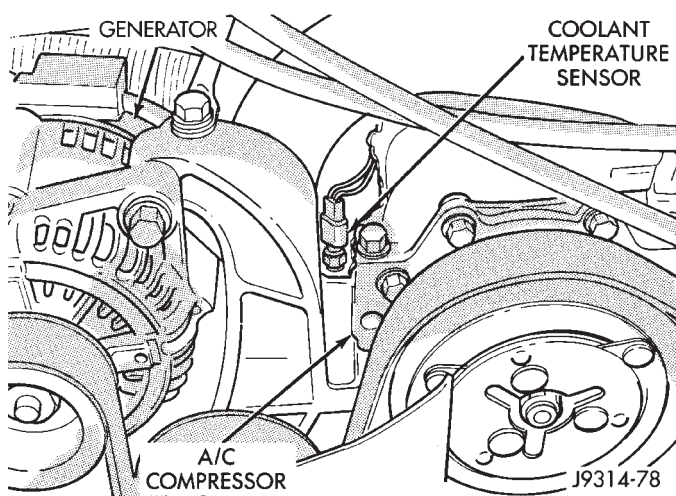

Fig. 83 Engine Coolant Temperature Sensor—5.2L Engine
(1) Partially drain cooling system. Refer to Group 7, Cooling.
(2) Disconnect electrical connector from sensor (Fig. 83).
(4) Remove sensor from intake manifold.